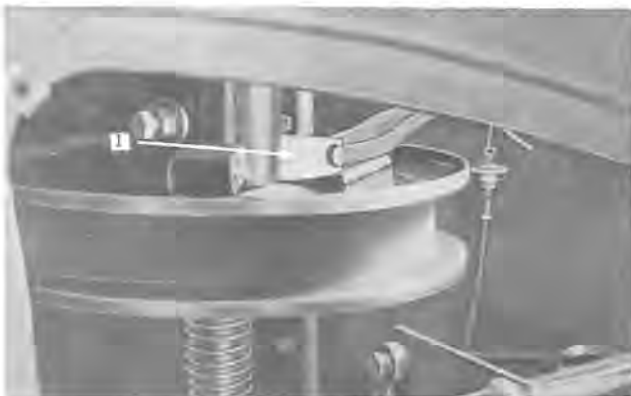

Figure 27
3. Check to see that brake pad (No. 1 Figure 27) is just free of the pulley with the brake